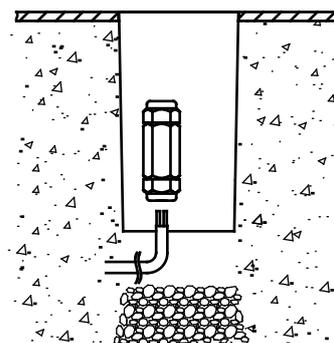

Fig 2.2
- 2.2 Connect the power cable to a waterproof junction box. (See Fig 2.2)